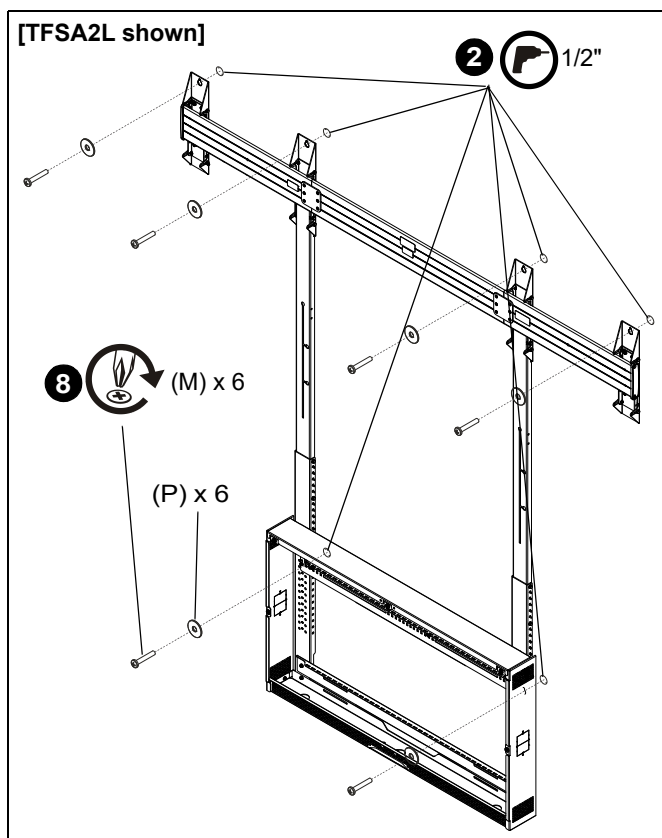

Figure 9
1. Mark hole locations at each mounting location based on locations of the bottom uprights and mounting brackets. Use a level to ensure of an even mount. (See Figure 9)
8. Replace the head assembly onto the uprights and use six 1/4-20 x 1 3/4" Phillips pan machine screws (M) and six 1/4" washers (P) to secure bottom uprights and mounting brackets to wall. (See Figure 9)